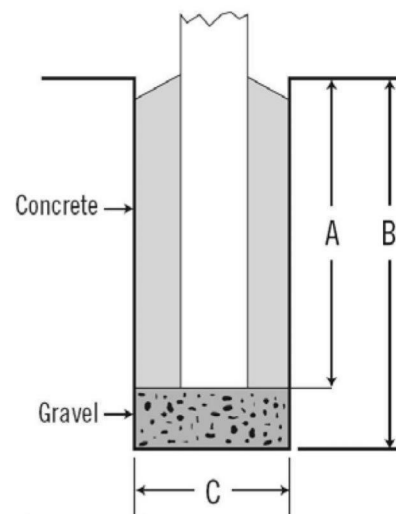

Fig. 4 Post Hole Dimensions
- Ensure that the bottom of the post is set at least 24" below grade for the Picket and Ranch Rail styles, 32" below grade for the Privacy and Privacy with Lattice styles, plus a 6" gravel base in each hole (Fig. 4).